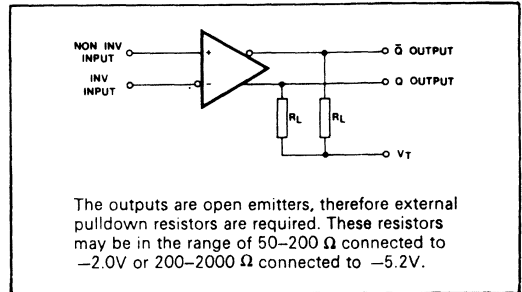

Fig. 2 Functional diagram
- $V_T = -2.0\text{V}$ (See Fig. 2)